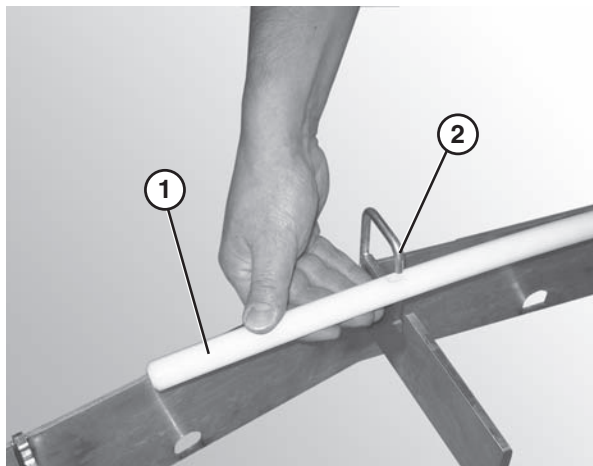

Figure 26
2. Attach the hold down wear strip (**Figure 26, item 1**) to the frame hooks (**Figure 26, item 2**) on the outside of the frame.